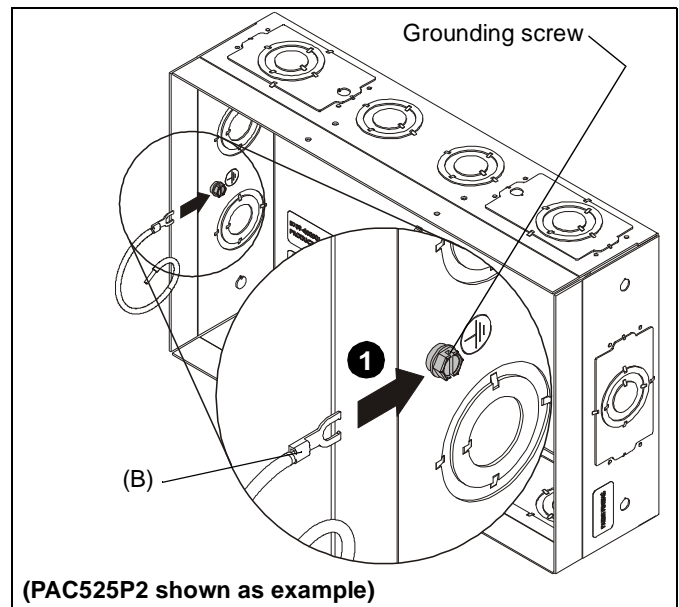

Figure 1
1. Attach the grounding pigtail wire (B) to the green grounding screw already in place within the PAC525, PAC526 or PAC527 in-wall boxes. (See Figure 1)